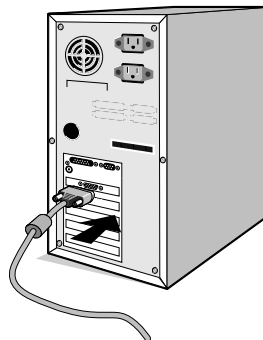

Figure A.1
2. **For the PC with Analog output:** Connect the 15-pin mini D-SUB to D-SUB signal cable to the connector of the display card in your system (**Figure A.1**).